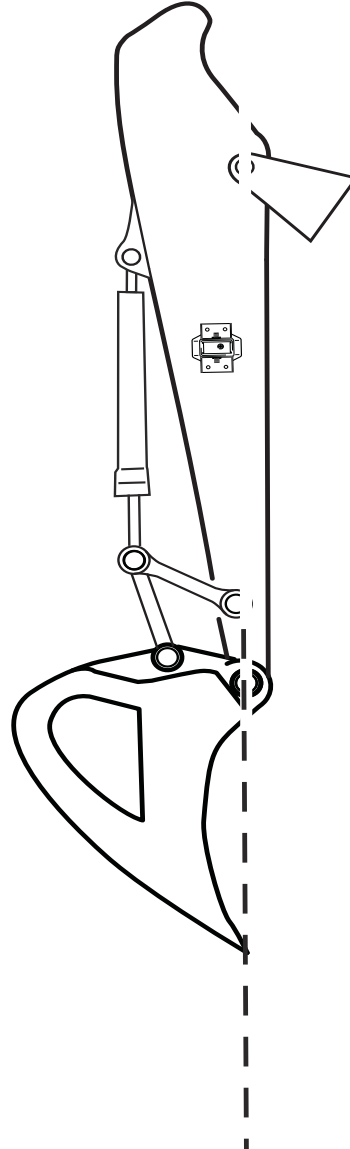

Figure 34: Stick at -90°
1. Position the stick at -90° (Figure 34 on page 29).